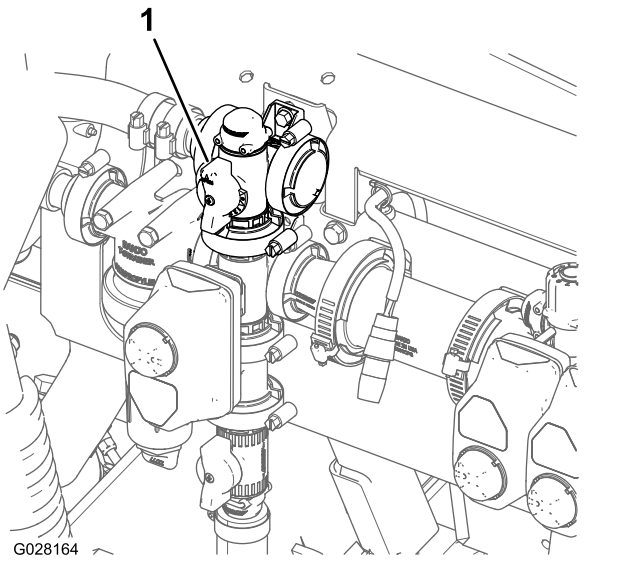

Figure 32
9. Adjust the agitation bypass valve (Figure 32) on the backside of the agitation valve until the sprayer system pressure indicated on the gauge indicates 689 kPa (100 psi).